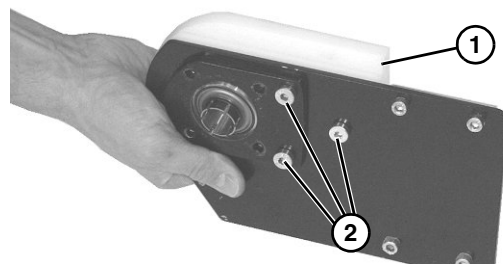

Figure 33
14. Check drive terminal assembly (**Figure 33, item 1**) for wear. If worn, remove three low head cap screws (**Figure 33, item 2**) and replace.